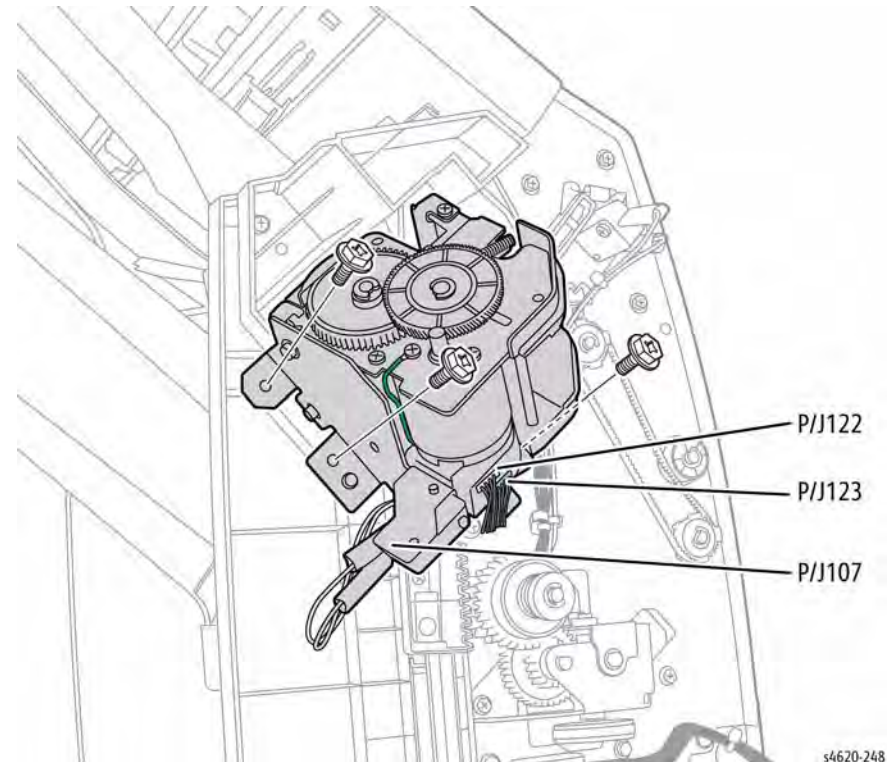

Figure 2 Remove the stapler bracket
4. Remove 2 screws (metal) that secure the Stapler to the bracket, Figure 2.